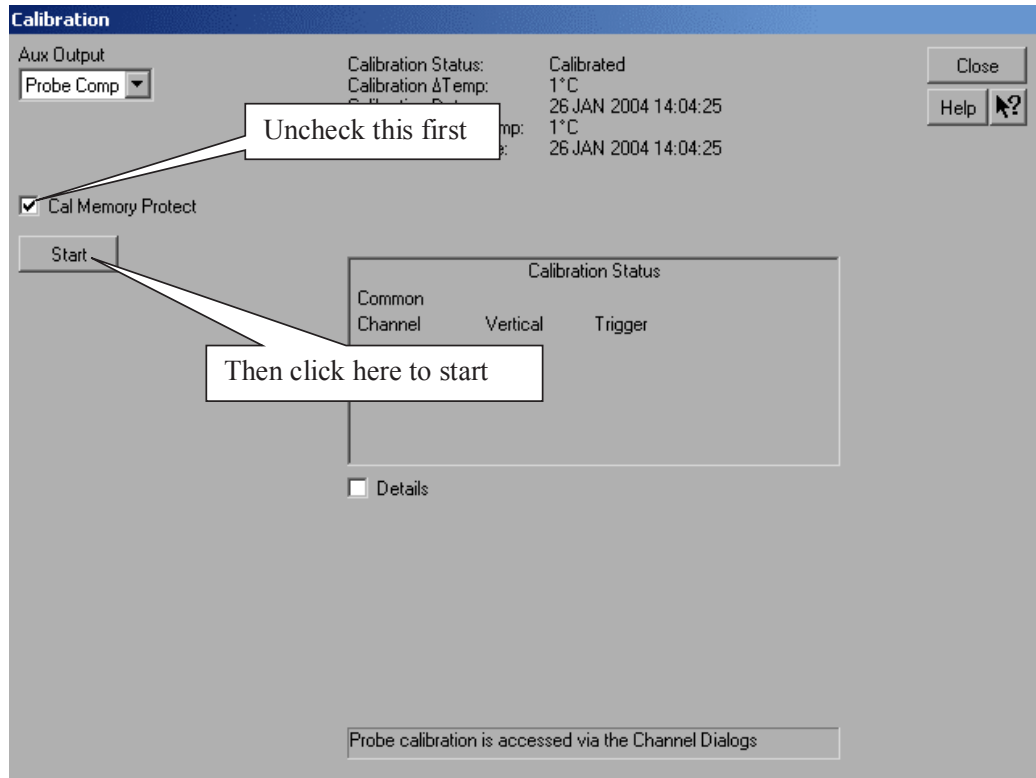

Figure 106 Oscilloscope Calibration Menu.
- 4 Referring to Figure 106 below, perform the following steps to start the calibration: